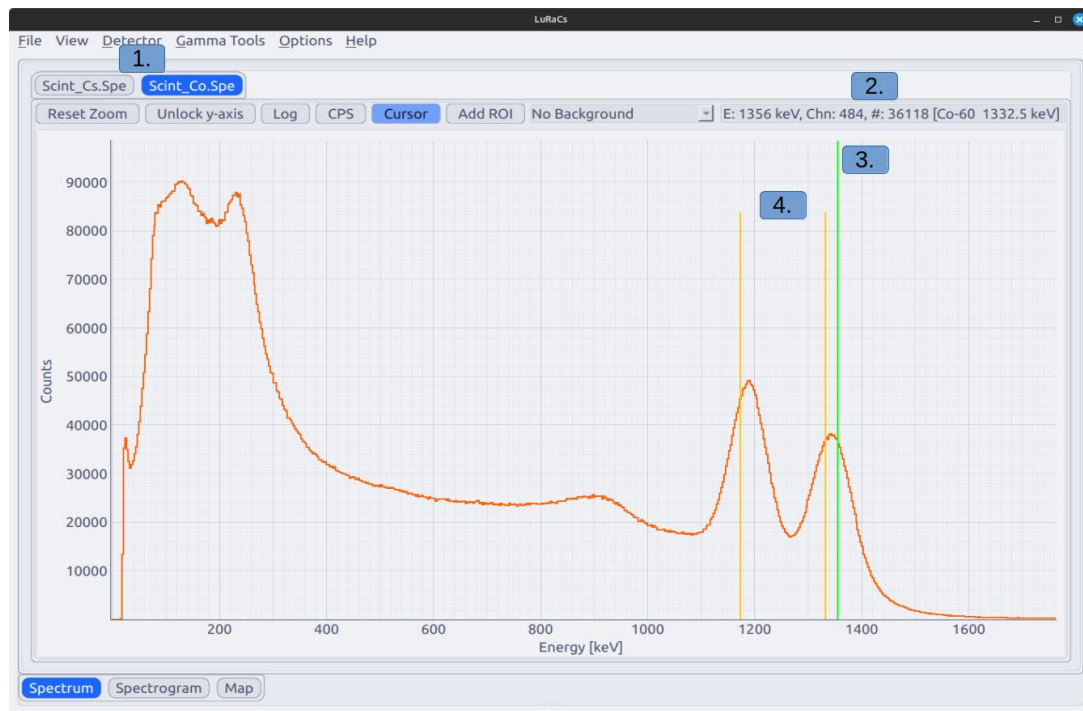

Figure 2.3: Co-60 spectrum with an active cursor.
5. **Cursor** toggles the spectrum cursor, see Figure 2.3.
8. Display for info from the cursor, see Figure 2.3.